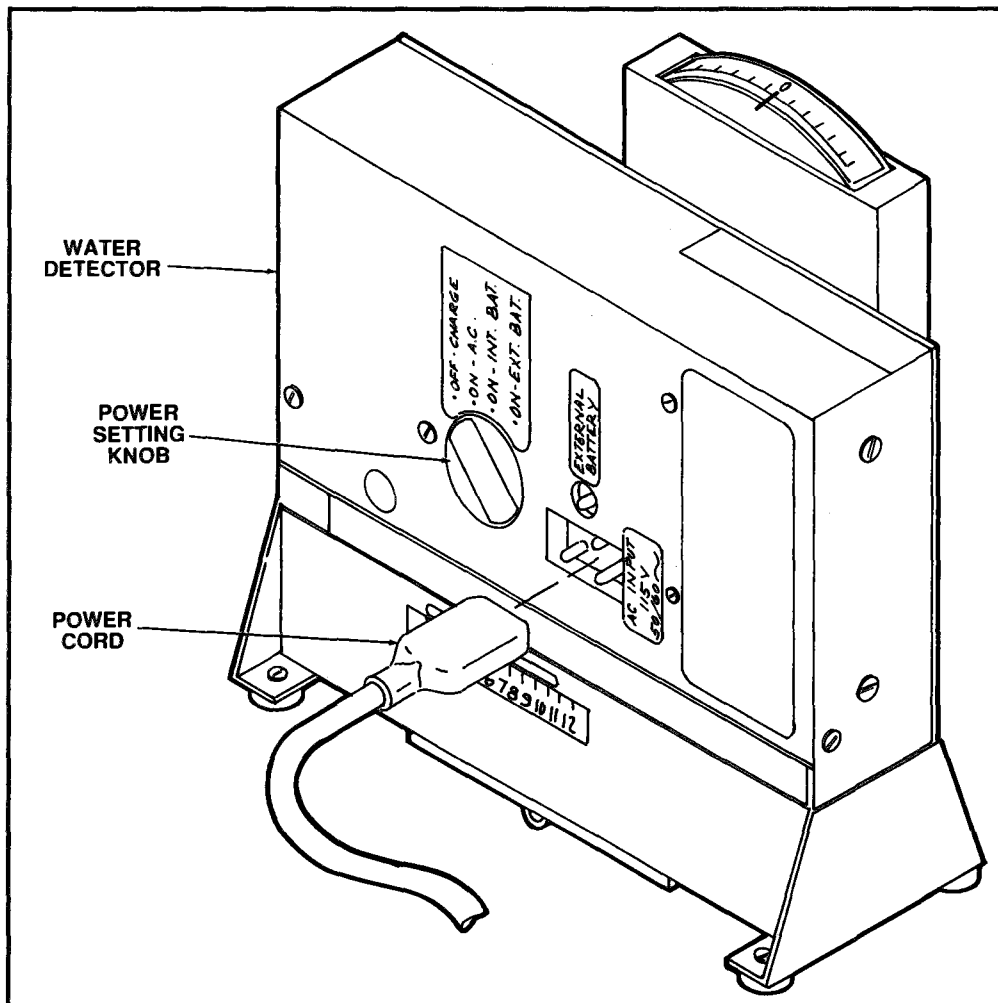

Figure 2.21 AC/Internal/External Power Setting
- a. Turn on the water detector, setting the indicator switch to the appropriate power source: set to either AC (power cord), internal, or external battery (Figure 2.21).
- d. Turn the power setting knob to the appropriate power source (i.e., AC, external or internal battery). See Figure 2.21.